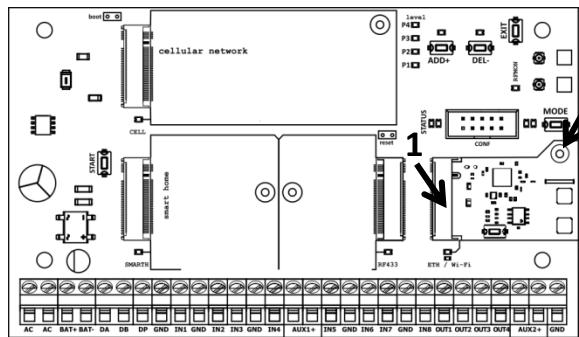

Fig. 2. View of CPX300W board with installed module.
MODULE INSTALLATION: The module should be inserted at an angle of approximately 30° (to minimize the possibility of damage to the connector) into the dedicated connector on the CPX300W motherboard (labelled "ETH / Wi-Fi"- see Fig.2, item 1) and then screwed with a screw attached to the set (Fig. 2 item 2).